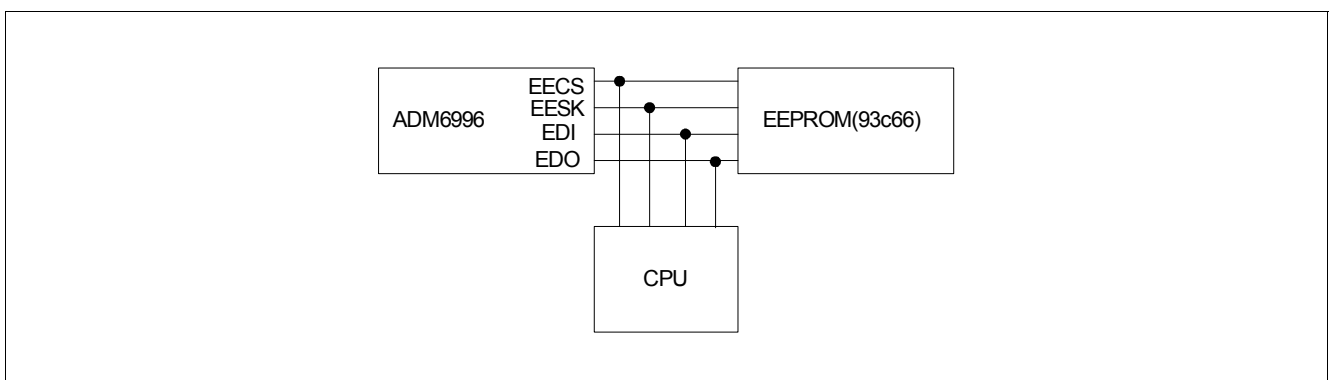

Figure 13 Interconnection between Samurai-6M/6MX (ADM6996M/MX), EEPROM and CPU
Three ways are supported to configure the setting in the Samurai-6M/6MX (ADM6996M/MX): (1) Hardware Setting (2) EEPROM Interface (3) SMI Interface. Users can use the EEPROM and SMI interfaces combined with the CPU port to provide proprietary functions. Four pins are needed when using these two interfaces. See Figure 13 for the description.